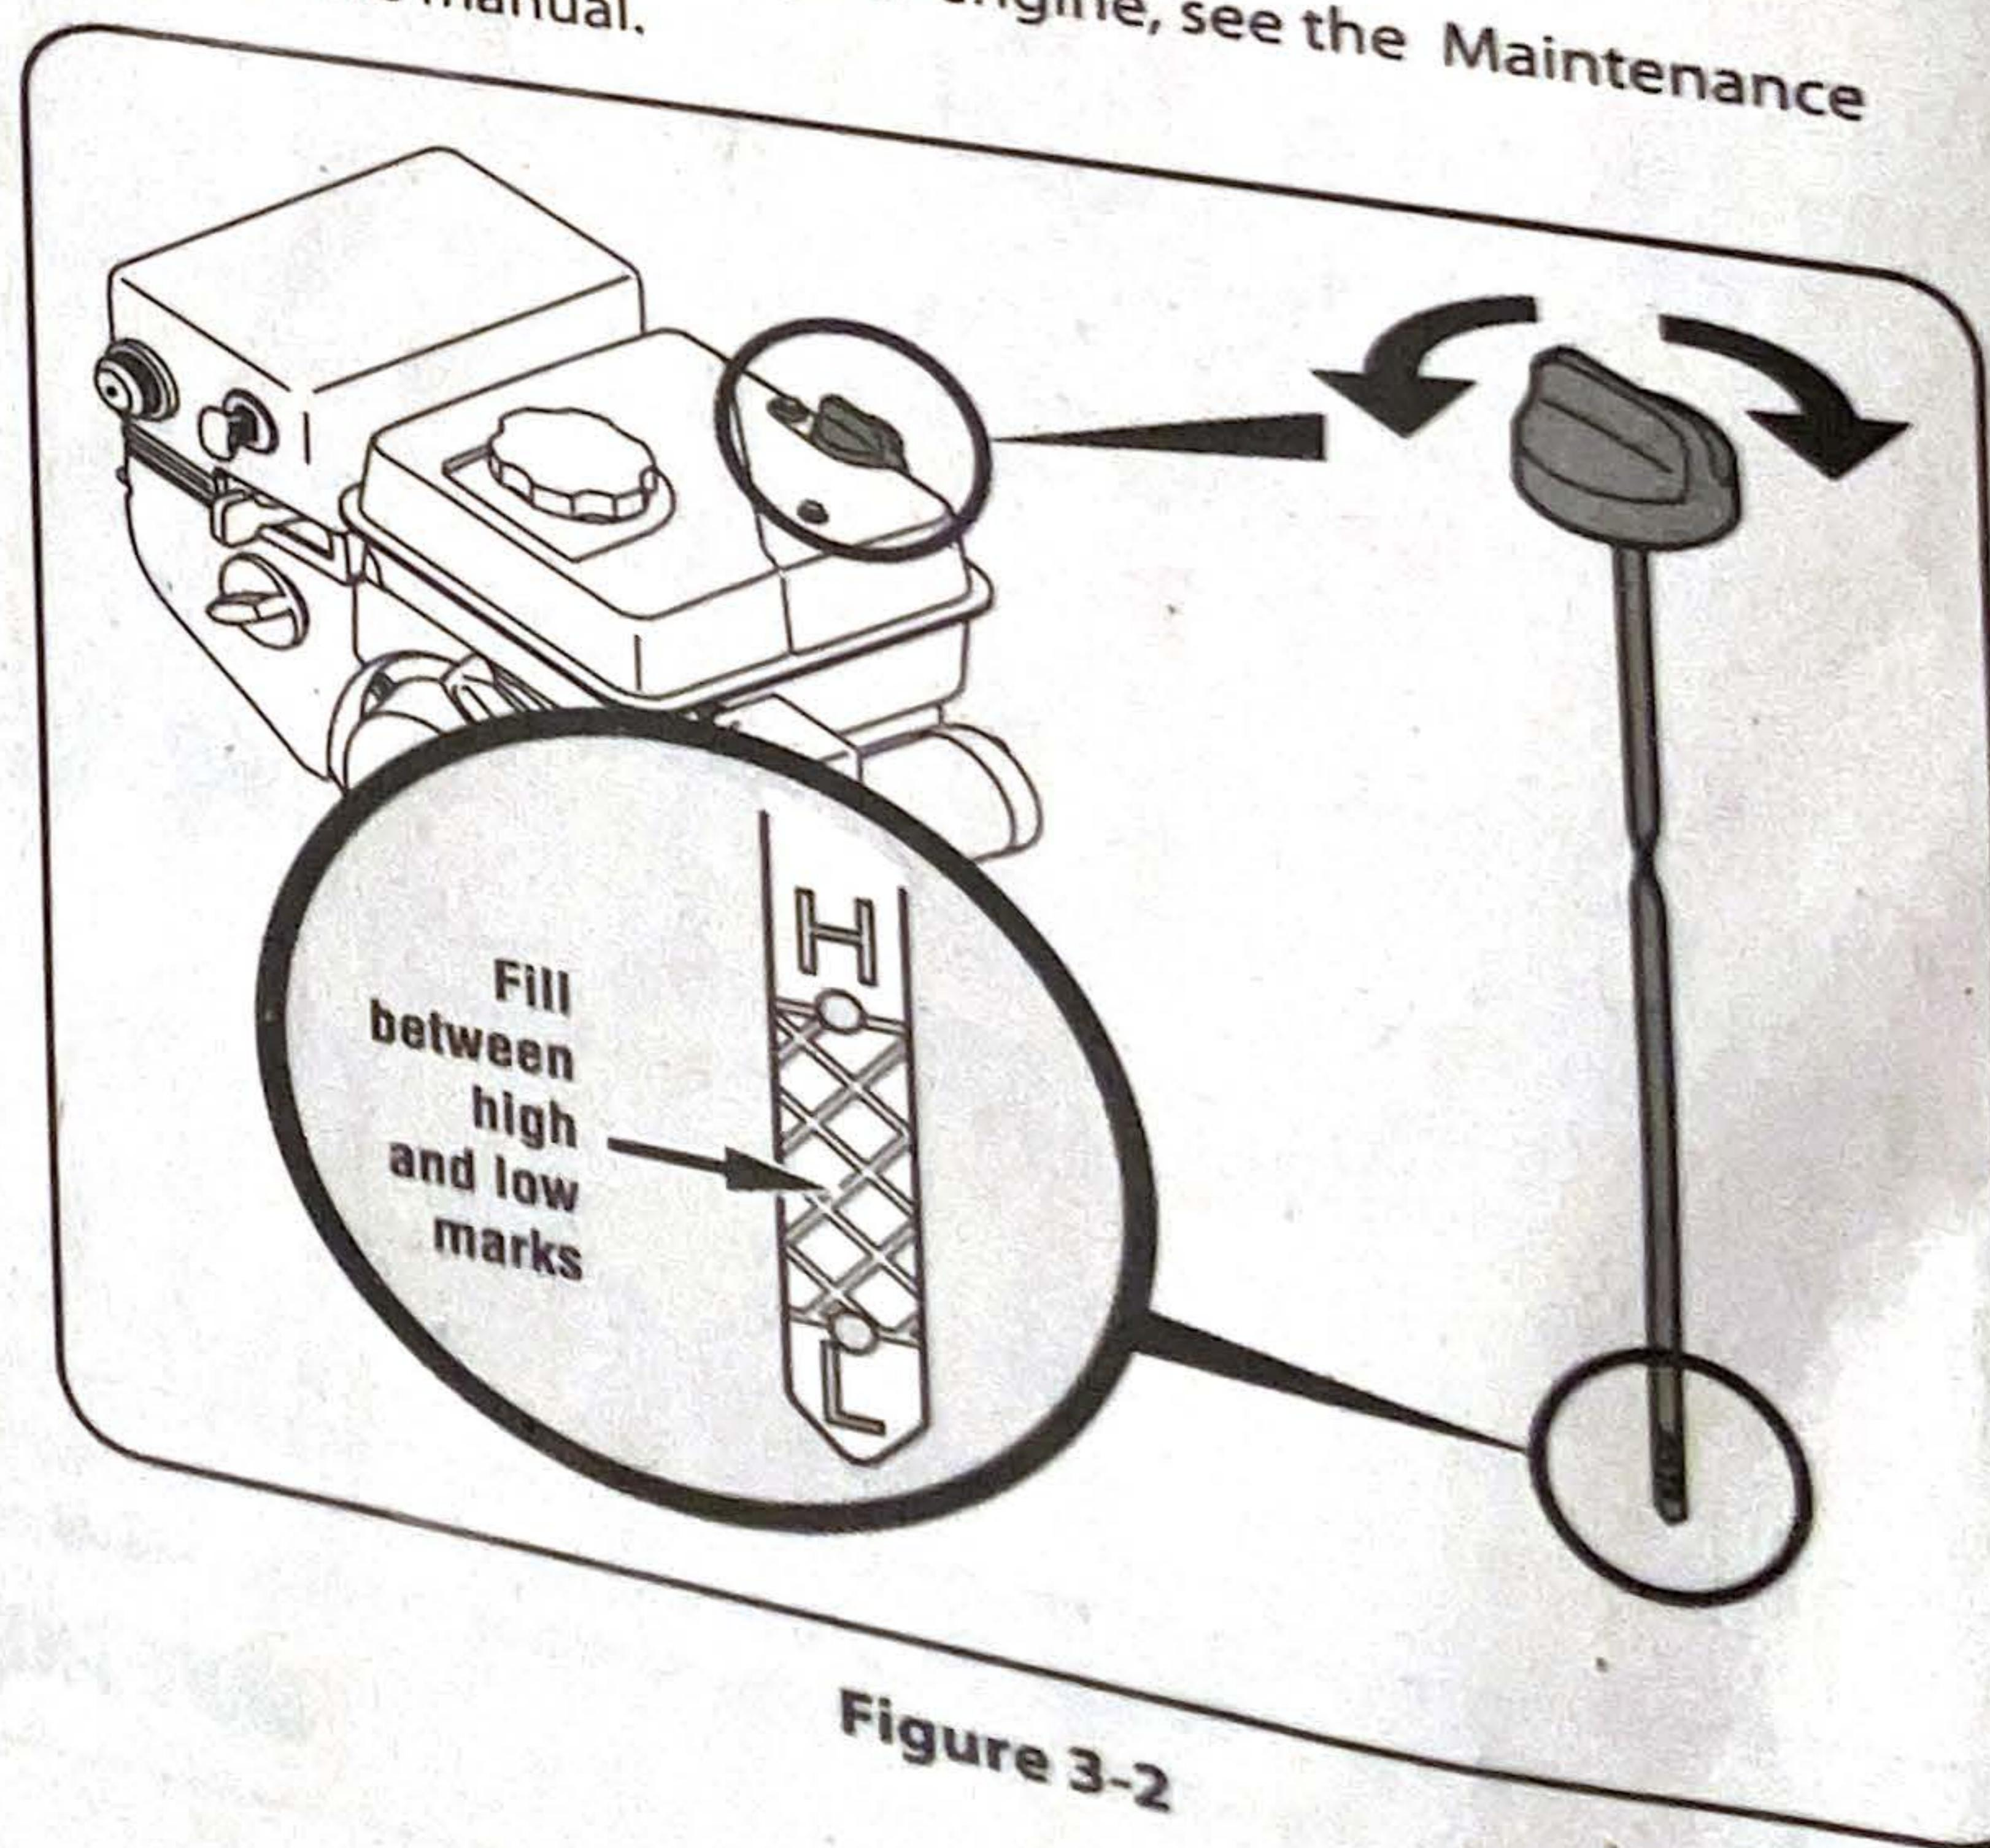

Figure 3-2
- Keep oil level between "H" and "L" marks on dipstick. See Figure 3-2.
1. Remove the oil filler cap/dipstick and wipe the dipstick clean. See Figure 3-2.
3. Remove the oil filler cap/dipstick. If the level is low, slowly add oil until oil level registers between high (H) and low (L), Figure 3-2.